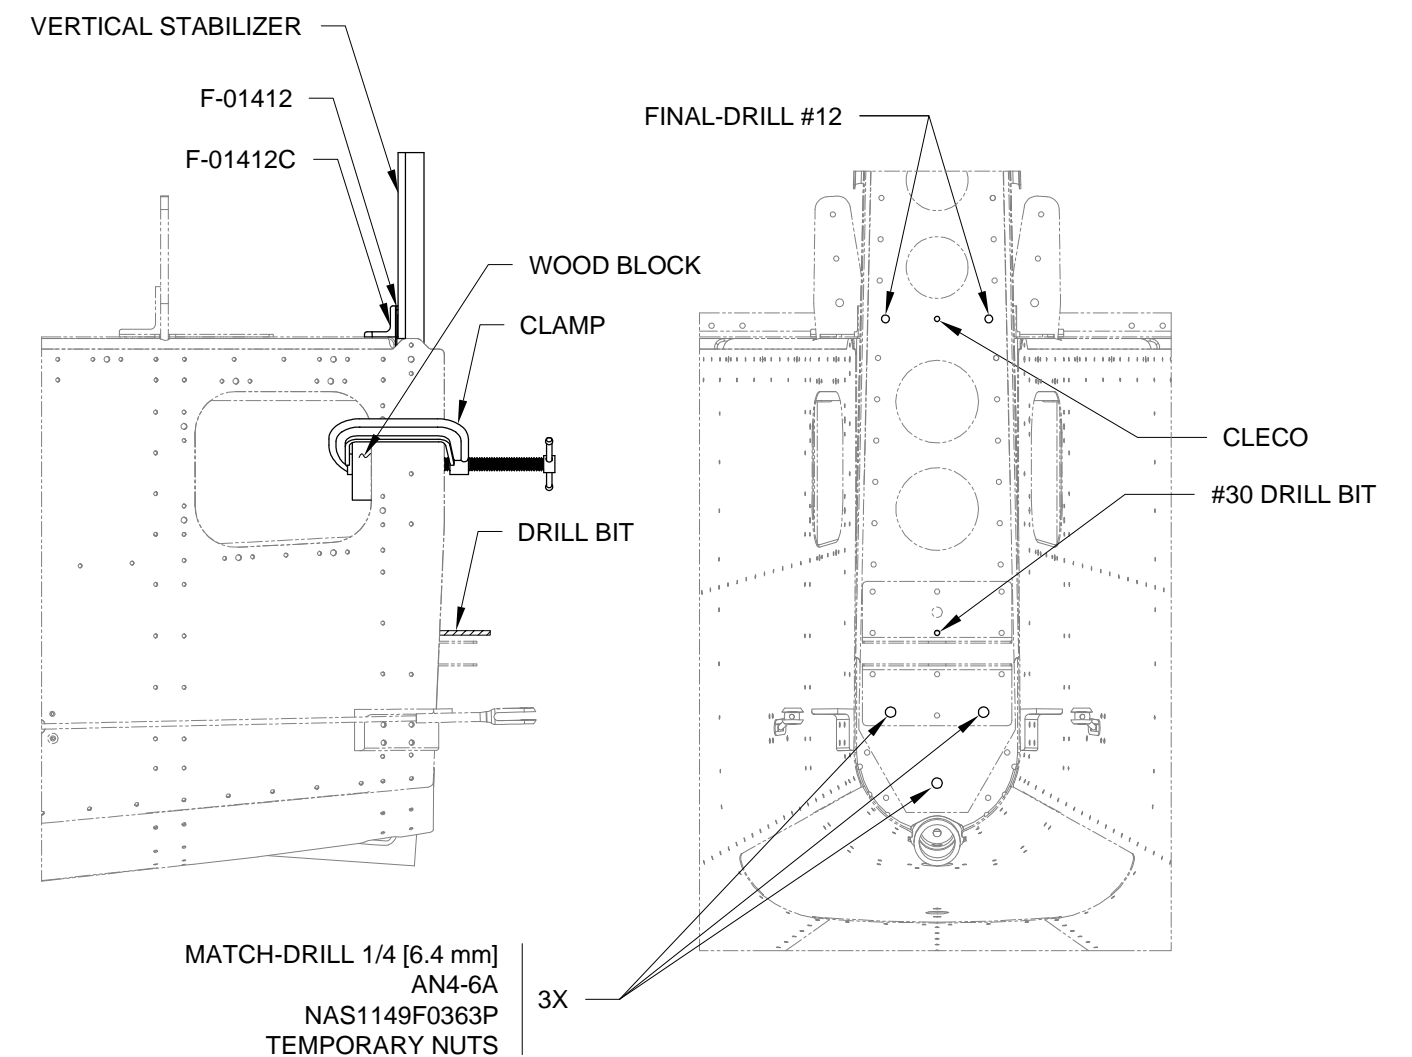

FIGURE 2: TAIL DRAGGER DRILLING
Insert a #30 drill bit into the hole as shown in Figure 2.
Secure the Vertical Stabilizer by clamping it to the F-01412 Bulkhead with a block of wood as shown in Figure 2.
Step 2 (Tail Dragger): Final-Drill 1/4 [6.4 mm] the holes in the Vertical Stabilizer as shown in Figure 2. Insert bolts as the holes are drilled as shown in Figure 2.
Final-Drill #12 the holes in the vertical stabilizer into the F-01412 Bulkhead and F-01412C Deck Angle as shown in Figure 2.